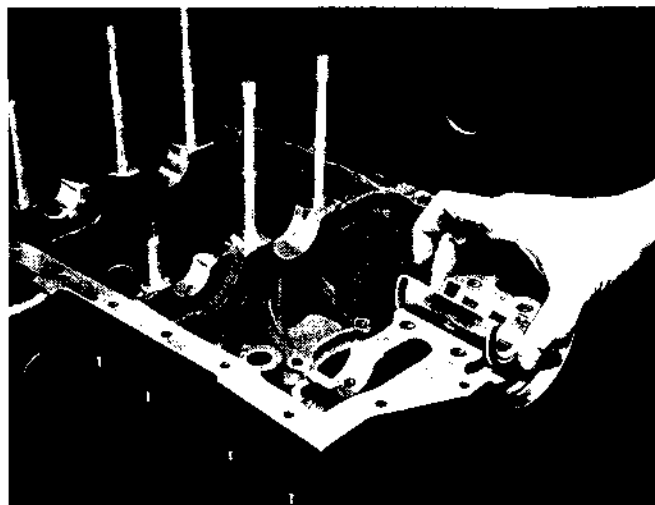

Figure 19. Installing Crankshaft Bearings into Crankcase.
(3) Insert bearings in both cases and gently tap into place, (Fig. 19). The shell-type bearings have "tang" and can only be replaced in their proper positions. On Series 9 engines lay starter gear bushing in position on the No. 2-4 crankcase with flange on outside of the crankcase and with the oil hole in the bushing in line with the oil passage in the crankcase.
(4) Oil camshaft and lay in No. 2-4 crankcase. Check camshaft for end clearance in accordance with limits as set forth in the Table of Limits.